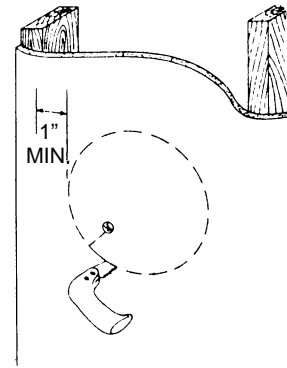

Fig. 2
1. Cut round or square hole in sheathing at desired location in wall. Round holes should be 9 $\frac{1}{8}$ " in diameter. Square holes should be 9 $\frac{1}{8}$ " on a side. (See Figure 2.)
2. Working inside wall first, draw a circle 9 $\frac{1}{8}$ " in diameter at determined location. Be sure opening is at least one inch from studs. (See Figure 2.)